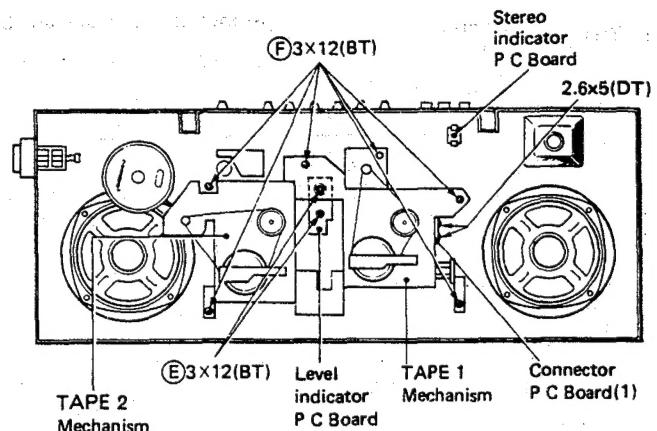

Fig. 6
## 7. Level indicator PC Board removal (Fig. 6)
The indicator PC Board can be removed by removing 2 fixing screws (E) shown in Fig. 6.
## 8. Stereo indicator PC Board removal (Fig. 6)
## 9. Cassette mechanism (TAPE 1 and 2) removal (Fig. 6)
The cassette mechanism (TAPE 1 and 2) are removed while they are assembled together by removing 6 screws (F) shown in Fig. 6.